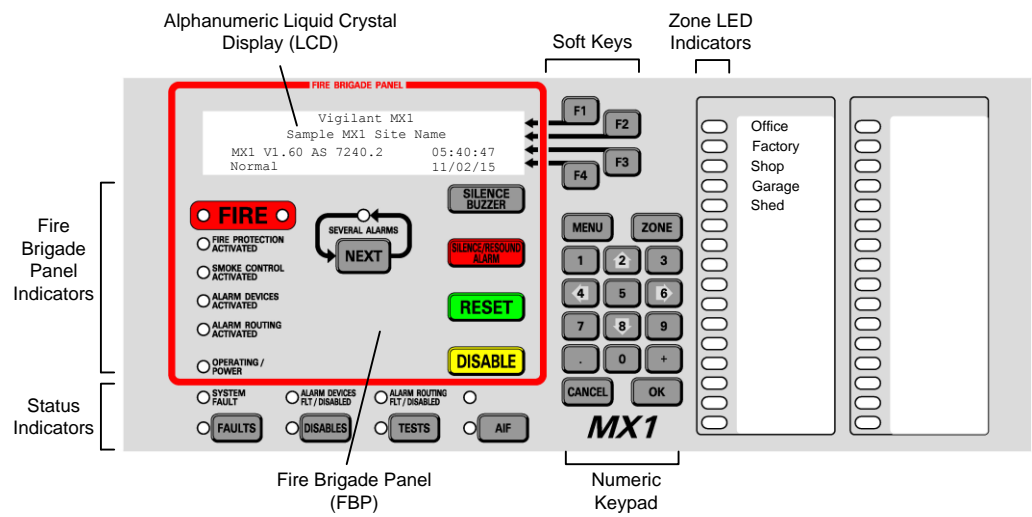

Fig 1-1 – Operator Interface
- The LCD reports that the system is normal and shows the current time and date, as shown in Figure 1.1.
If the general state of the operator interface is not as shown in Figure 1.1, refer to the information in Chapters 2 and 3 for instructions on managing the alarm, fault, test or disable condition.